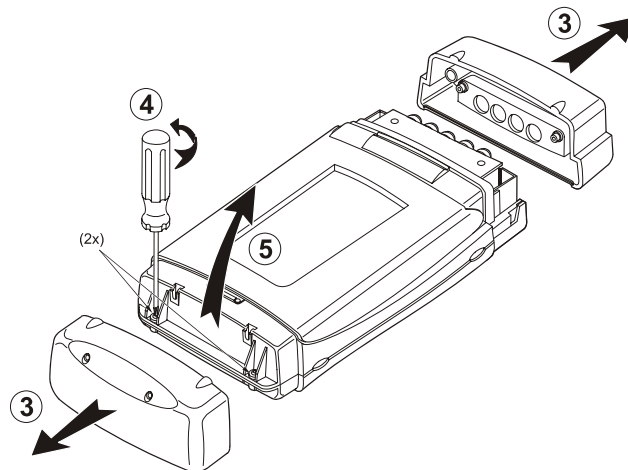

Figure 5-4. Opening the Analyzer
3. Pull off the input cover and the bottom holster (Figure 5-4).